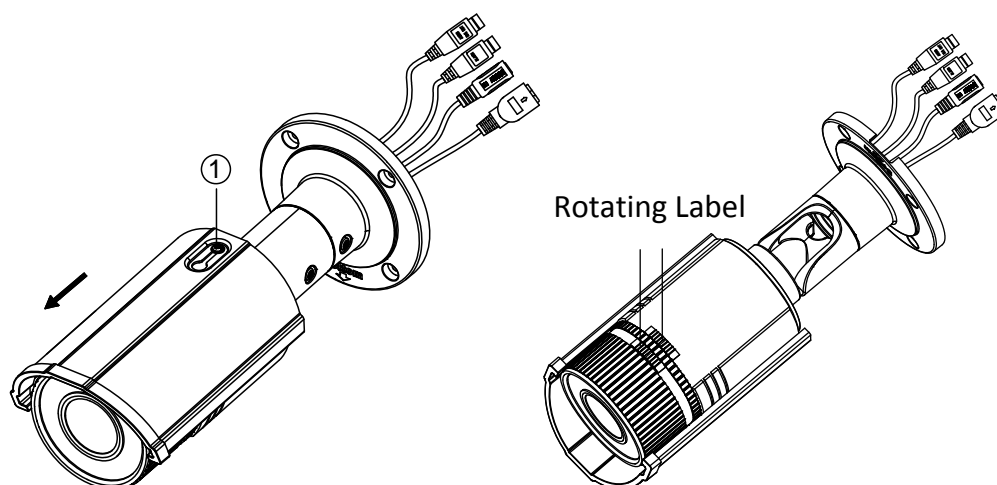

Figure 6-27 Assemble the Camera
6. Slide the sun shield according to the arrow direction as shown in Figure 6-27(left).
For water-proof, please align the rotating label on the front cover with that on the camera when you rotate the front cover clockwise. Refer to Figure 6-27 (right).